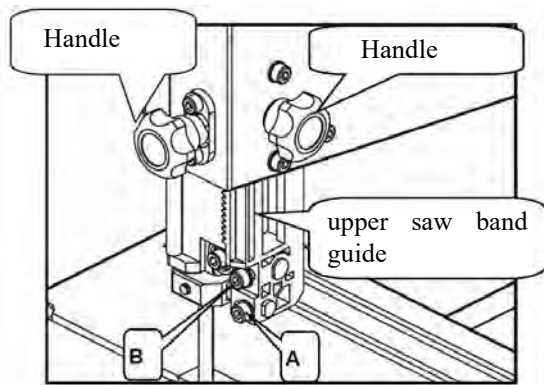
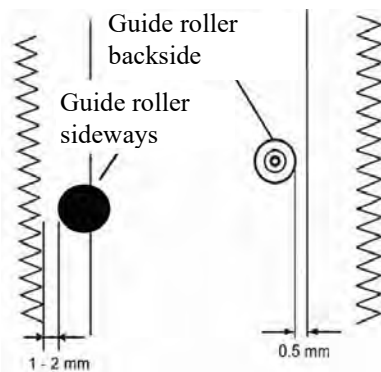
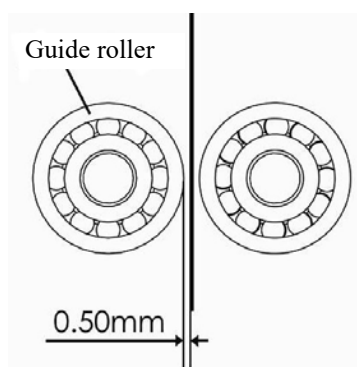

Fig. 23: Adjust the position of the upper strap guide
Fig. 24: Setting the guide bearings
Fig. 25: Adjusts the guide bearing
Step 1: Open the clamping screw of the saw band guide and adjust the height with the aid of the adjusting handle. Then fix the adjustment handle again. (Fig.23)
Step 2: Loosen the screw (A, Fig.23)) and adjust the position of the guide bearing so that the guide bearing is 1 or 2 mm (Fig.24) away from the teeth of the saw blade. Then tighten the screw (A, Fig.23).
Step 3: Loosen the screw (B, Fig.23) and set the back of the guide roller to 0.5 mm (Fig.25) behind the back of the blade. Tighten the knob (B, Fig.23) again.